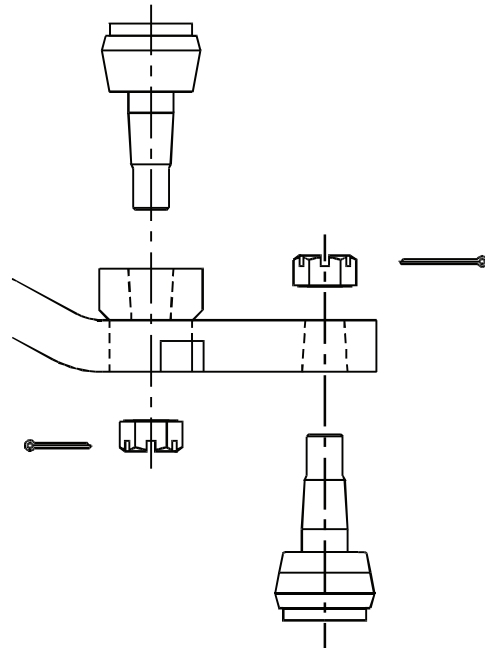

Figure 24 - Tie Rod Steering Arm Connection
1. Remove the cotter pins from the ball studs. (See Figure 24).
1. Connect the relay rod to the bell crank and idler steering arms. (See Figure 24).
3. Connect the outer tie rod from the bell crank or idler steering arm and the steering knuckle. (See Figure 24).